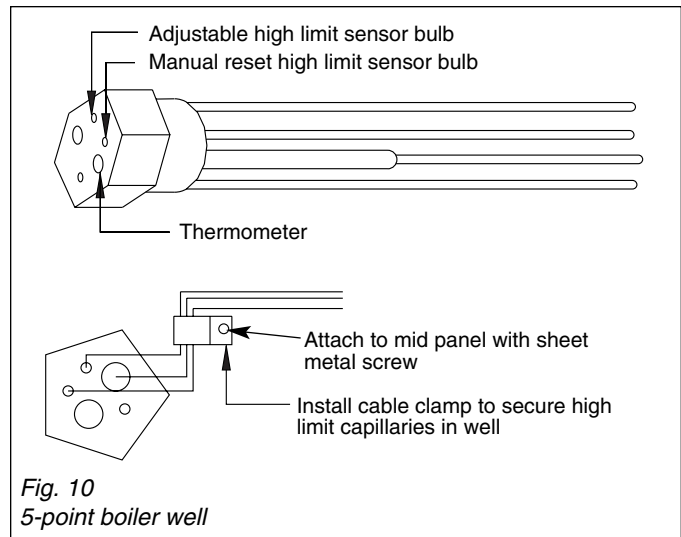

Fig. 10
- Install upper front cover panel on four push pins. Insert the temperature sensors from the Vitotronic control into the 5-point well located in the upper right hand corner of the mid panel. (The insulation in this opening may require cutting.) Be careful not to kink the capillary tubes! Refer to Fig. 10.